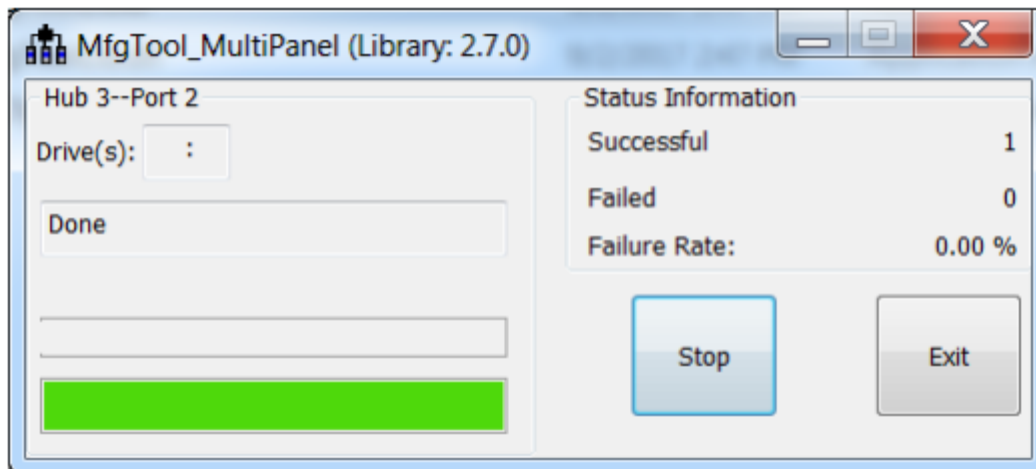

Figure 13. Programing the flash successfully
5. Program the bootable image. Click the “Start” button to trigger a programming sequence and wait for it to complete, as shown in Figure 13. To exit Mfgtool, click the “Stop” and “Exit” buttons.